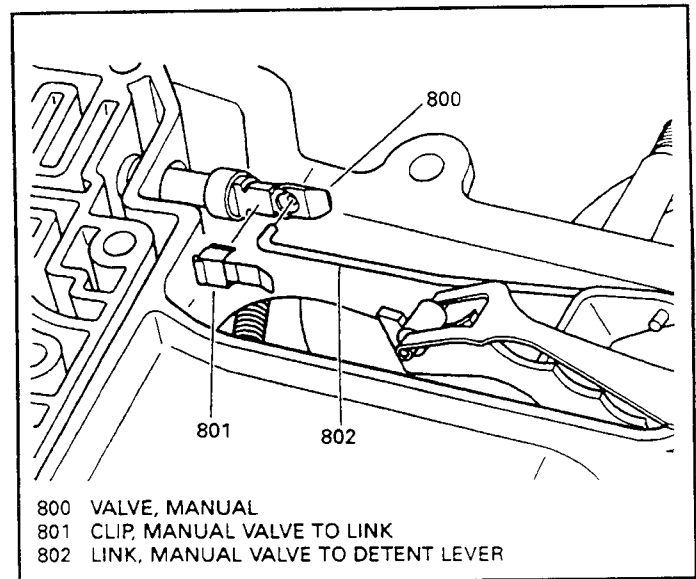

Figure 61
50. Disconnect the manual valve clip and manual valve link from manual valve (See Figure 61).